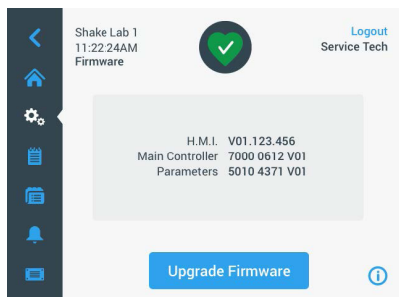

Figure 119: Firmware Screen
Tapping the Firmware button from the Files and Info screen (see "Files and Info" on page 79) requests you to enter the administrator passcode, then opens the Firmware screen shown in Figure 119. This screen lets you install new firmware from an USB memory stick.
**NOTICE** In the event that you select two or three options from the list shown in Figure 119 to upgrade multiple firmware components in one go, the shaker must not be powered off at any time during the entire upgrade process.